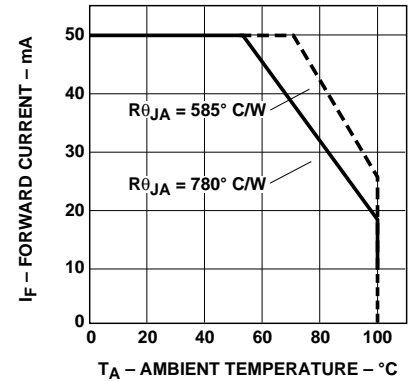

Figure 4. Maximum Forward Current vs. Ambient Temperature. Derating Based on $T_{JMAX} = 130^{\circ}C$.
1. Derate linearly as shown in Figure 4.